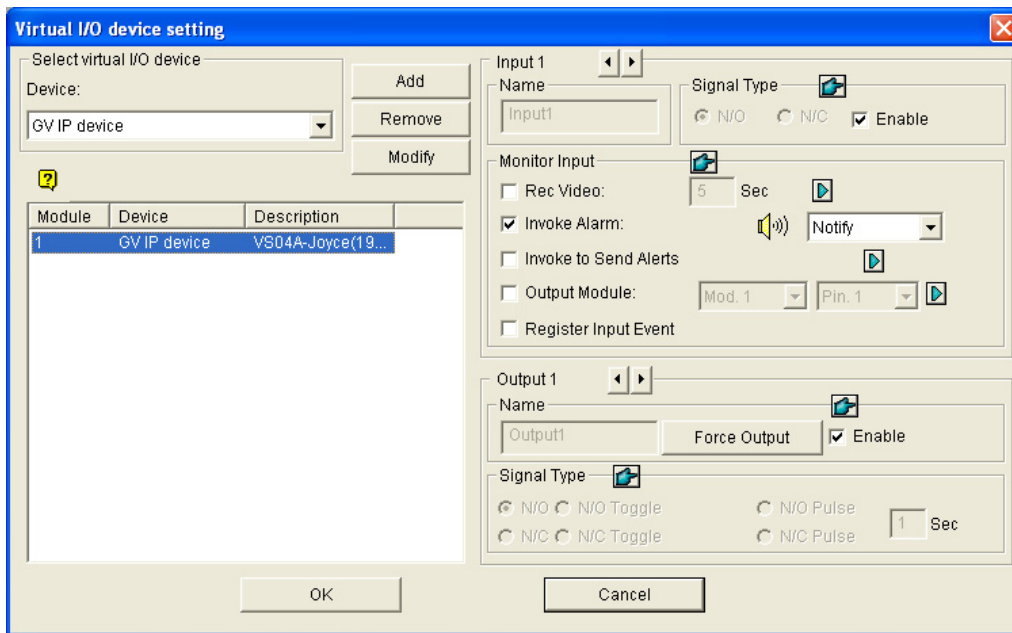

Figure 6-33
2. In the Virtual I/O Device Setting dialog box (Figure 6-33), select one device, e.g. **GV IP Device**, and click the **Add** button. This dialog box appears.